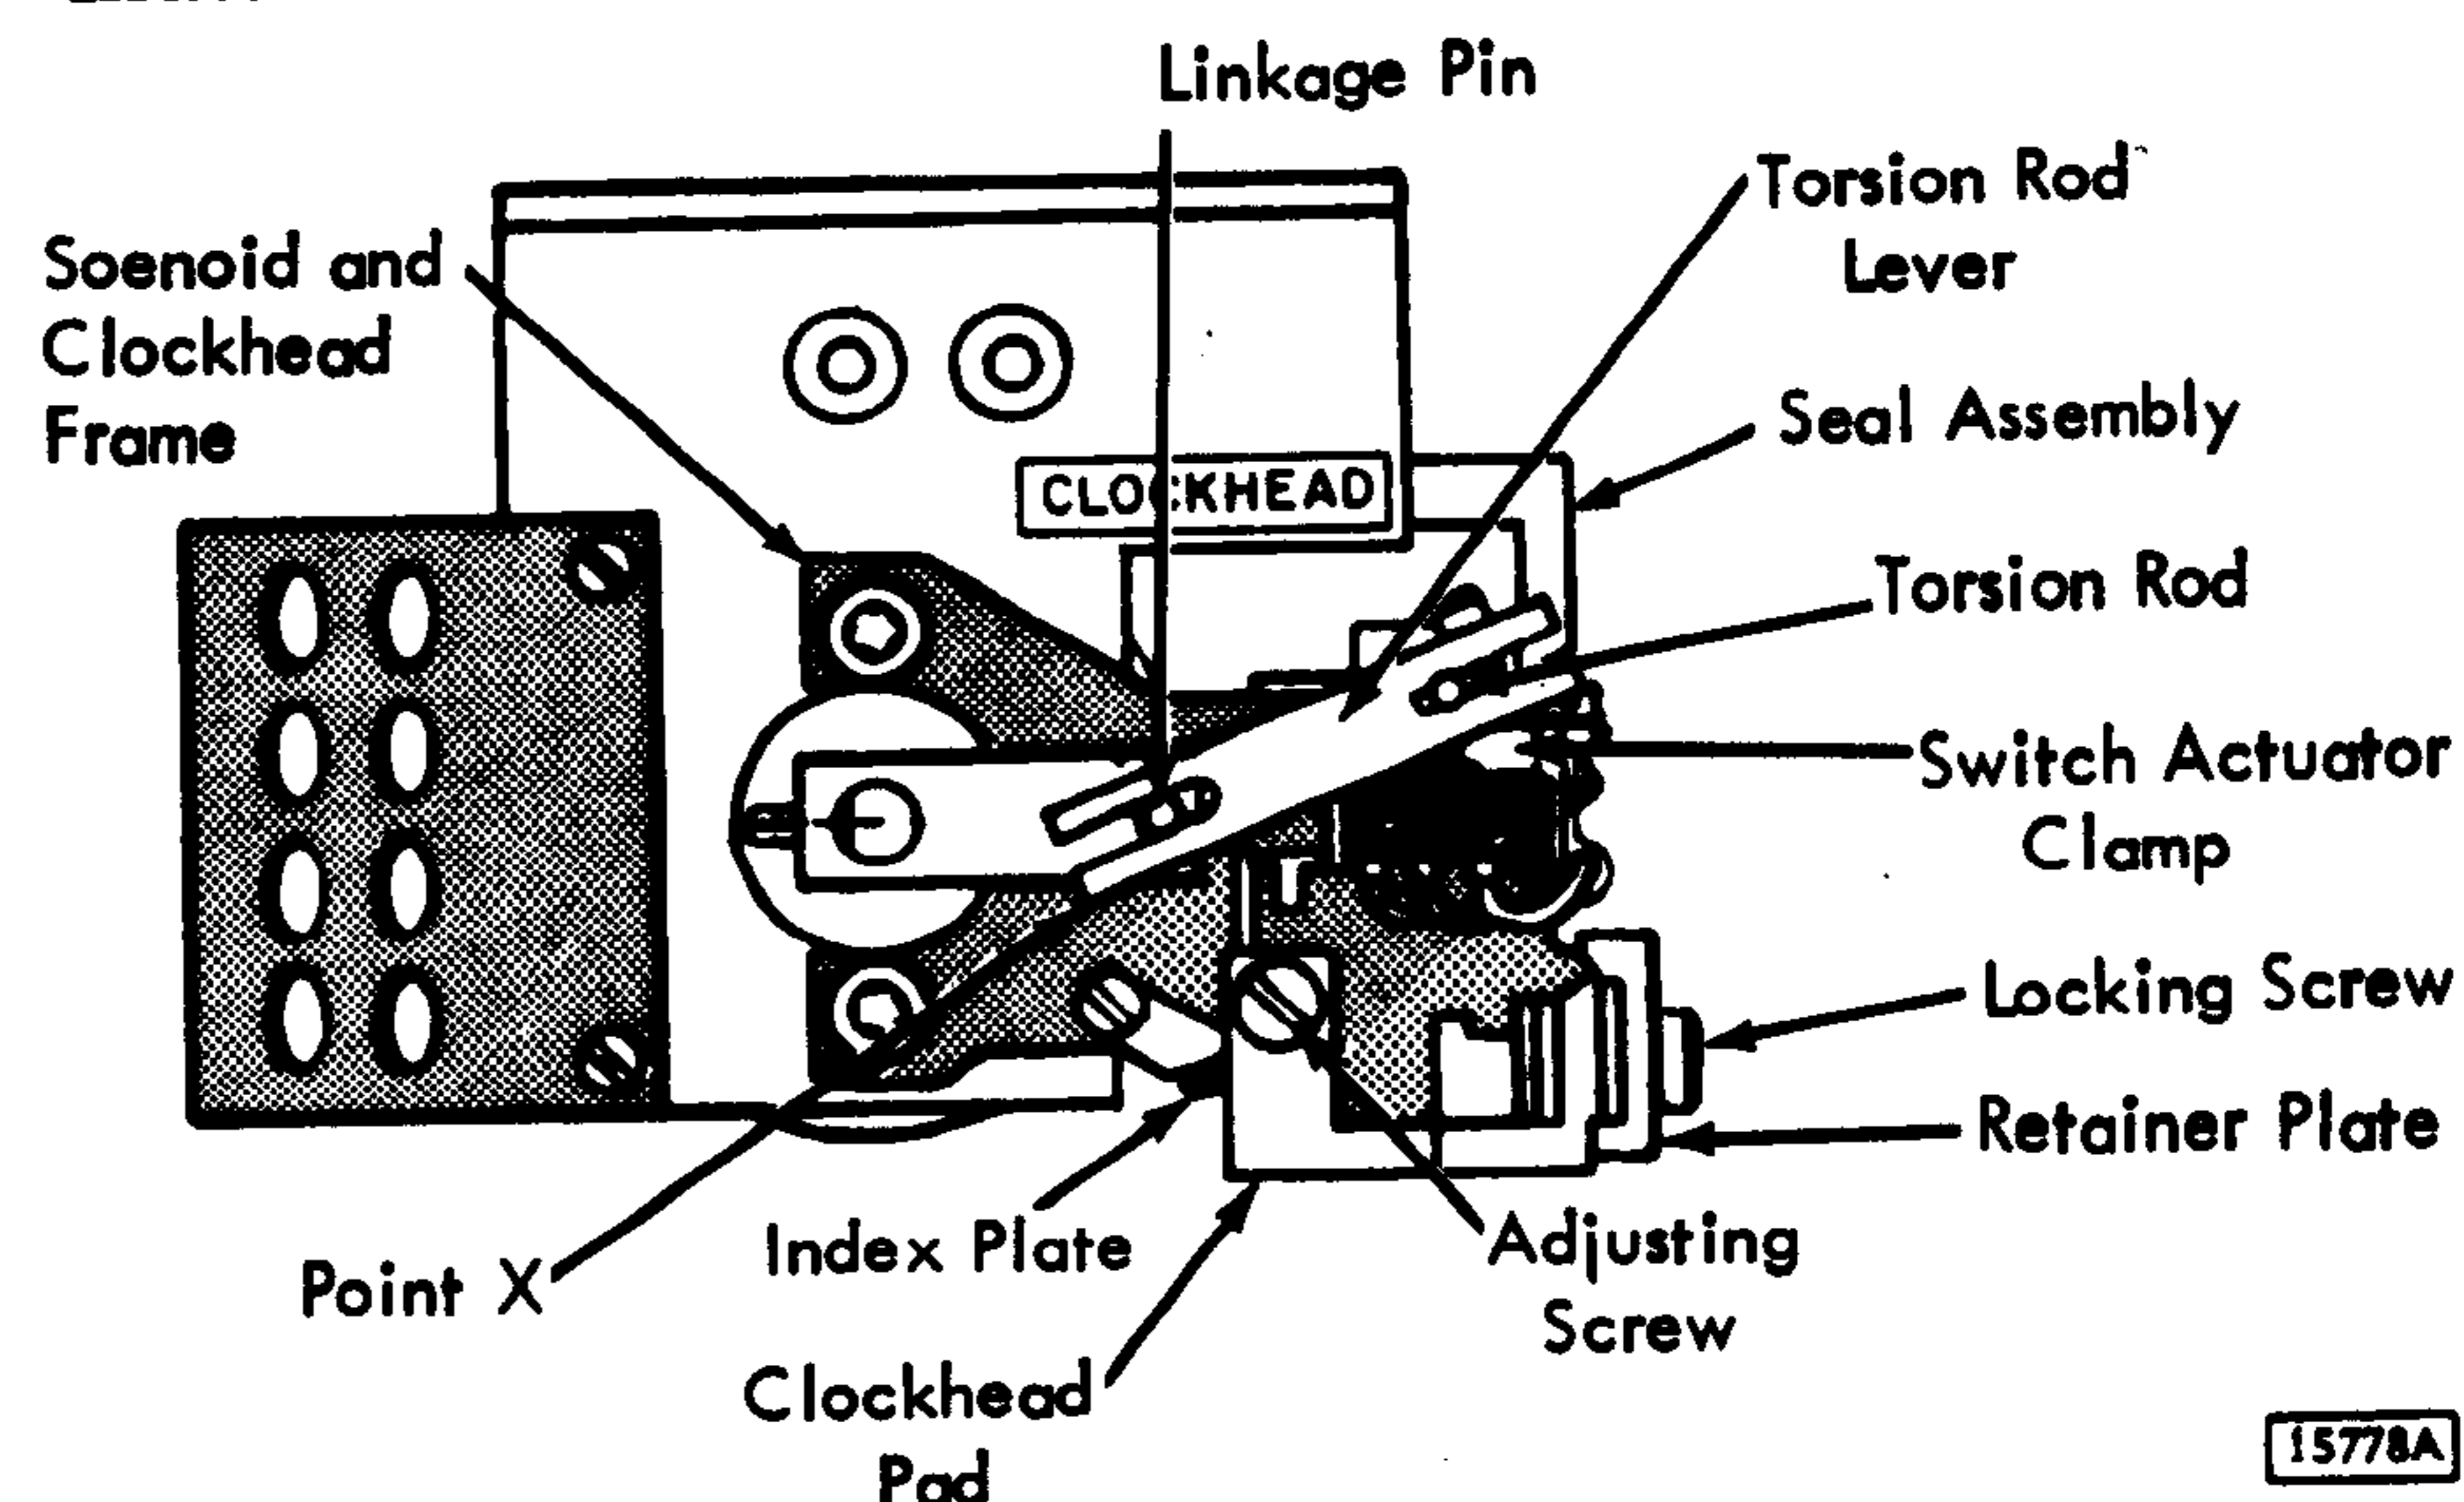

Figure 4-25. Clock Head Assembly
Six (640 kc) clock tracks each are recorded at intervals marked on the clock indexing plate (Figure 4-25).
2. Loosen locking screw (Figure 4-25).
With solenoid energized and head loaded, the torsion rod lever should be clamped on the torsion rod in such a position that 260 ± 10 grams are required at point 'x' (Figure 4-25) to lift the torsion rod off the linkage pin (switch should not be actuated during this time). Adjust switch actuator clamp to close switch when head is properly loaded.